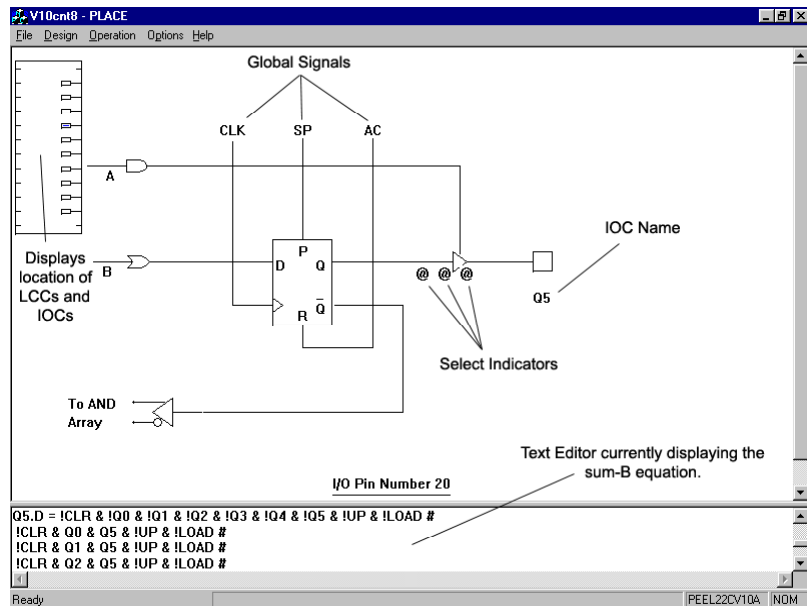

Figure 3-15 IOC screen of the PEEL™ 22CV10A
- Reg** Sets the IOC to registered output. In the 22CV10A devices, the feedback path is automatically set to come from the Q of the register with this configuration. See Figure 3-15. The register is triggered on the rising-edge of the clock.